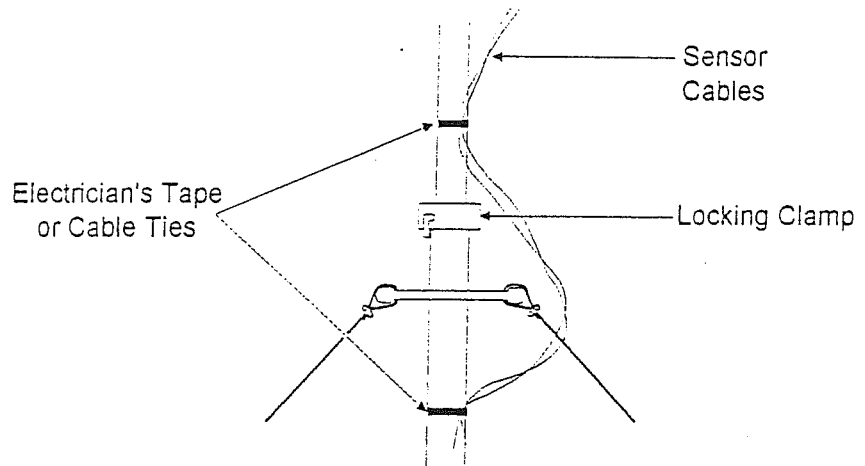

Figure 4-10
15. Tape or cable-tie the cables both above and below the joint between the two mast sections. Remember to allow some slack here (see Figure 4-10).